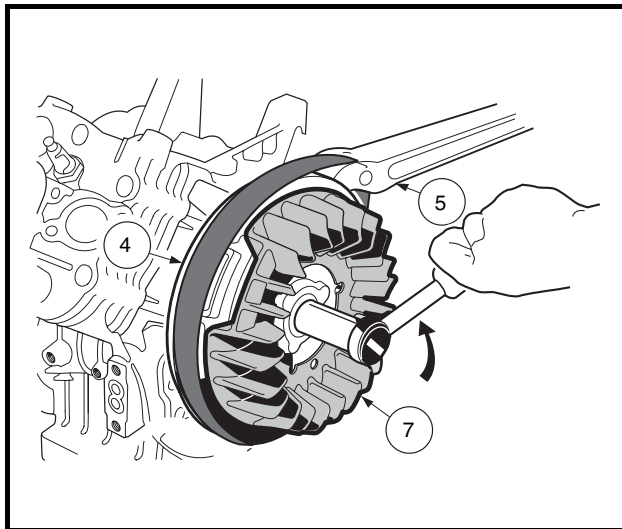

Figure 13-9 Flywheel Nut
3. Hold the flywheel (4), not the fan (7), with a strap wrench (5) and, using a 25 mm socket, remove the flywheel nut (and flat washer) by turning it counterclockwise (**Figure 13-9, Page 13-8**). See following **CAUTION**.